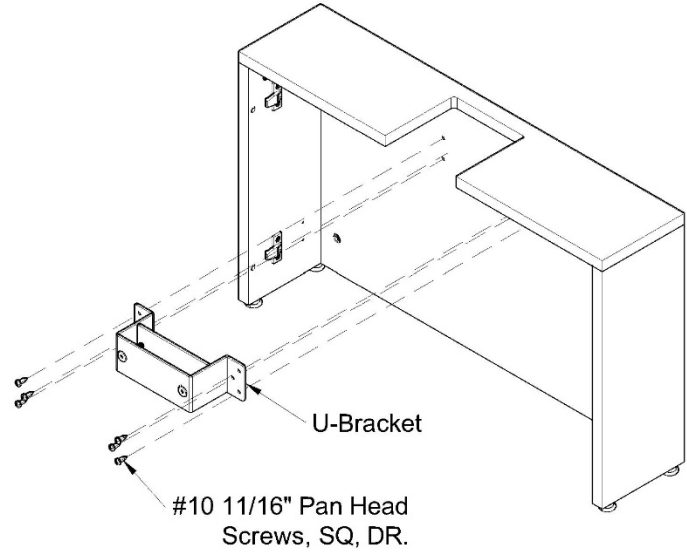

Figure 5
7. Unscrew the 6 - #10 11/16" Pan Head, Square Drive Screws and remove the U-Bracket from the Volley Enclosure Box as shown in Figure 5.